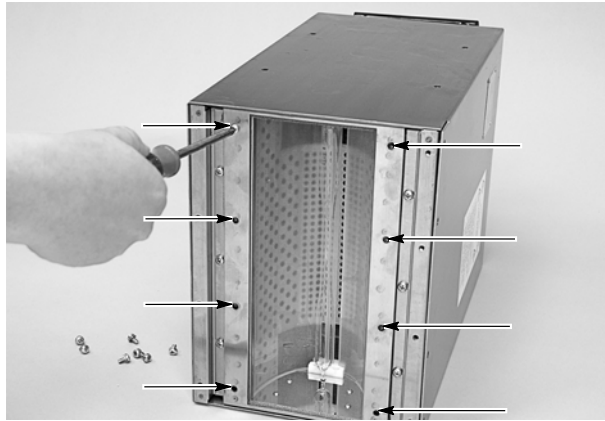

Figure 6-3 RF Screen Removal
2. See Figure 6-3. Turn or place the lamphead assembly so that the entire bulb area is exposed and accessible.